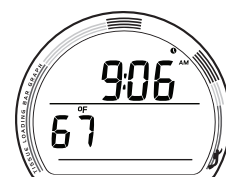

Fig. 101 - GAUG DIVE ALT 2
**GAUG DIVE ALT 2**, information includes (Fig. 101) -